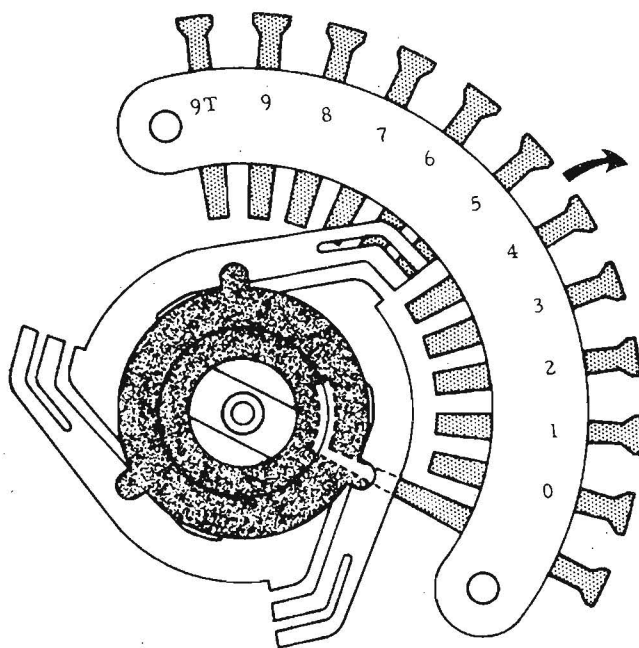

Figure 6. Rotor Removal
4. Manually step the switch until the rotor contacts are in the No. 5 position (see figure 6). In this position, the stator arm contacts can be slid out of the rotor wiper assembly without damage.
6. Carefully slide the stator bank assembly outward away from the rotor assembly (in the direction shown in figure 6) until the stator arm contacts are free from the rotor assembly.